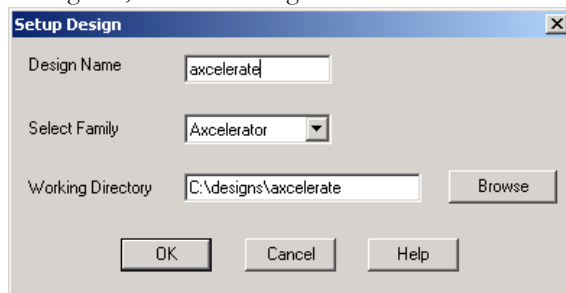

Figure 2-31. Setup Design Dialog Box
- 1. In the Tools menu, click *Setup Design*.** This displays the Setup Design dialog box, as shown in Figure 2-31..